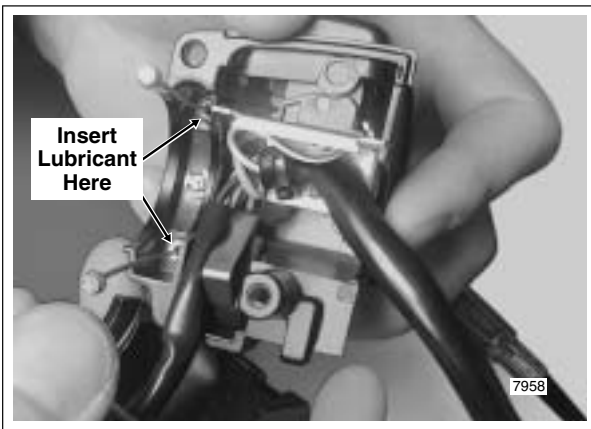

Figure 1-19. Lubricate Throttle/Idle Cables
7. Obtain tube of Lubit-8 Tufoil Chain and Cable Lube (HD Part No. 94968-85TV- 1/4 fl. oz.). Insert pin of tube between throttle cable and cable housing inside lower switch housing. Squeeze tube to squirt a quantity of lubricant into cable housing moving pin around cable OD. See Figure 1-19.